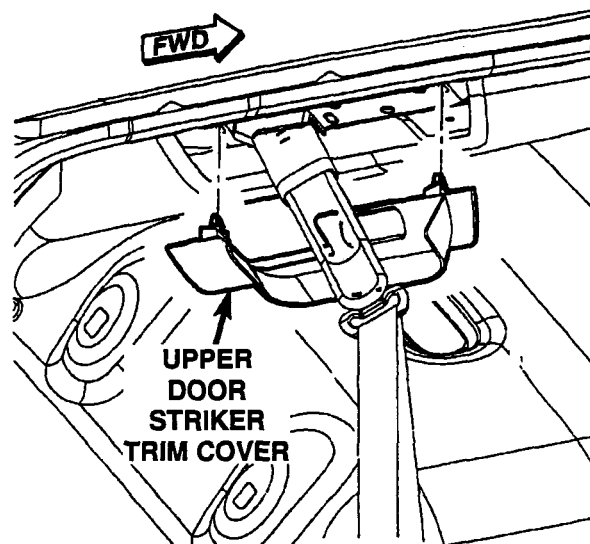

Figure 5
Remove the two (2) screws that secure the **right** upper door striker trim cover to the headliner and then remove the cover (Figure 5).
69. **For CLUB Cab Vehicles Only:** Install the **right** upper door striker trim cover (Figure 5).